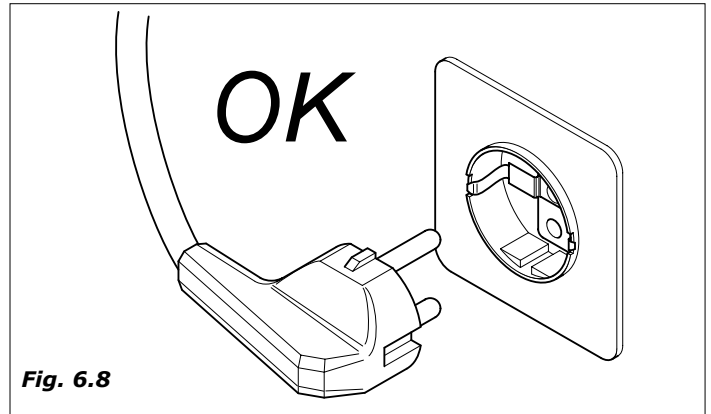

Fig. 6.8
- The distributor is equipped with a power supply cable of H05VV-F 3x1 mm², with SCHUKO plug (Fig.6.8).